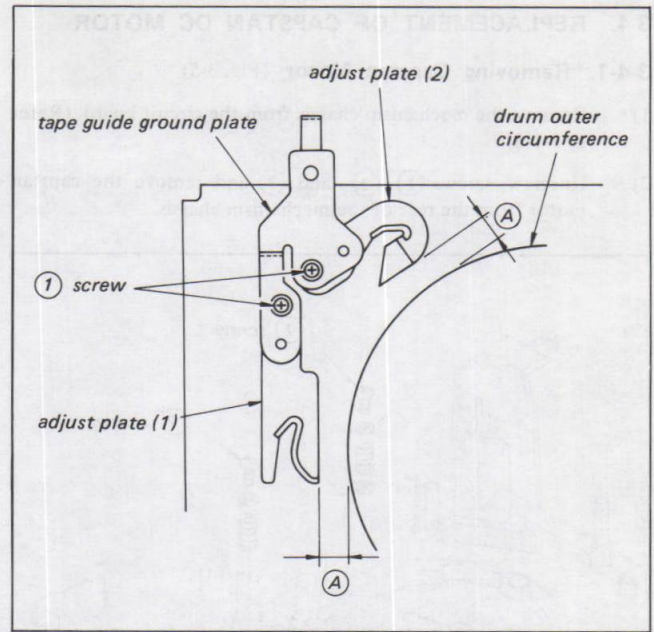

Fig. 3-3. Tape guide ground plate
2. Measure and record the two gaps between the upper drum tape holding section and adjust plate (A in Fig. 3-3). (Do not forget to do this, as the adjust plate mounting position affects the tape path.)
3. Unscrew the screws ① shown in Fig. 3-3 and remove the tape guide ground plate and adjust plates (1) and (2).
- 1) Measure the gap between the upper drum and adjust the plate as for replacement of the drum assembly. (Fig. 3-3)
- 2) Unscrew the screws ① and remove the tape guide ground plate ② and adjust plate ③.
- 3) Unscrew the two screws ④ and remove the holder assembly ⑤.
- 4) Unscrew screw ⑥ and remove the guide plate ⑦.
- 5) Unscrew the two screws ⑧ and five screws ⑨ to remove the shuttle guide I ⑩ and II ⑪, as well as the slant base assembly ⑫.
- 6) Unscrew screw ⑬ and remove the pin recliner ⑭.